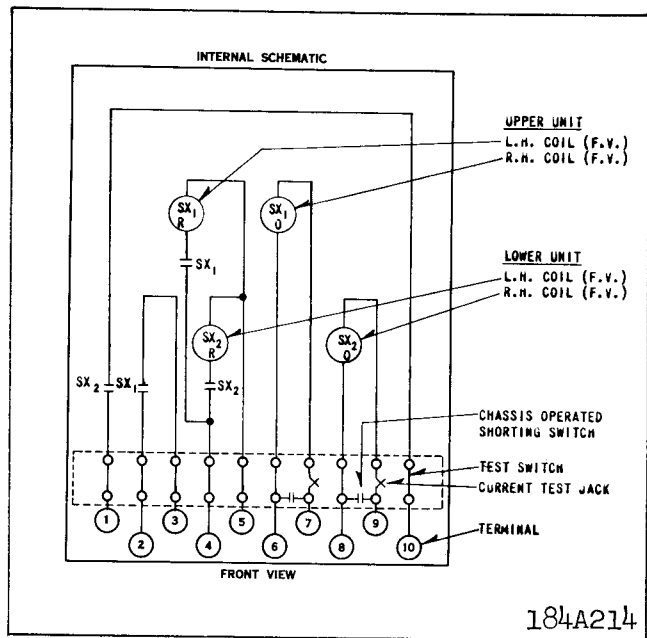

Fig. 4. Internal Schematic of the Type SX two unit Relay, current actuated operating coils, in Type FT11 Case.
* Fig. 4. Internal Schematic of the Type SX two unit Relay, current actuated operating coils, in Type FT11 Case - for selective reclosing where phase and ground protection cannot have a common SX operate coil.